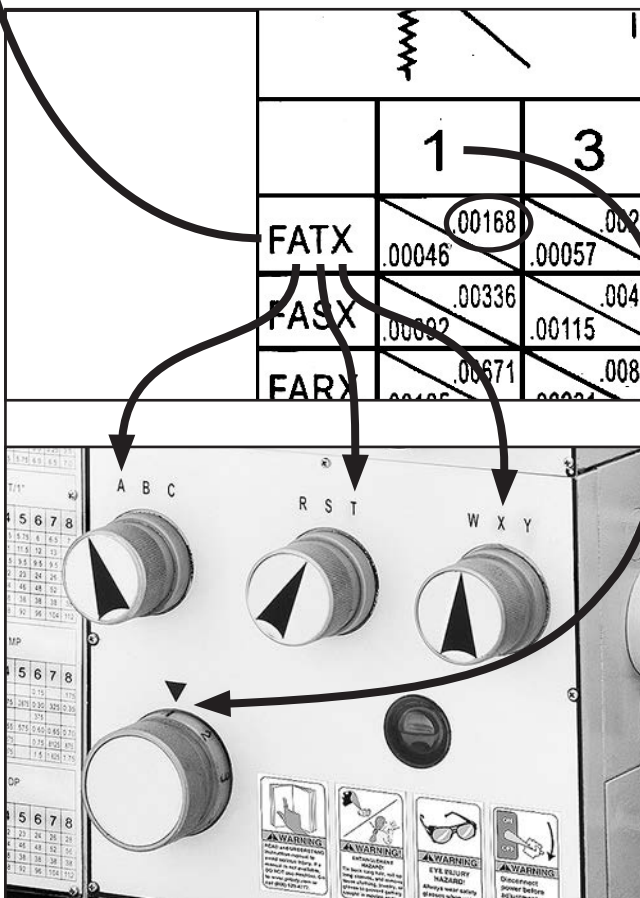

Figure 52. Feed control settings for a 0.00168" carriage feed rate.
- Move the feed dials to the combination of **FATX1**, as shown in **Figure 52**.